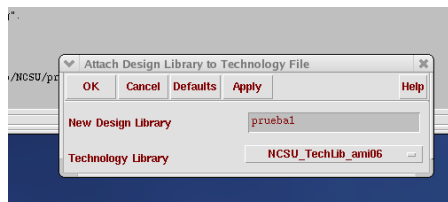

Figure 5. Technology library window.
- e) Choose your proper technology, see Fig. 5; for instance, for AMI 0.5 μ m in MOSIS, choose **AMI 0.6u C5N**.
a) First, you have to create pins in your schematic in those non-global nets (inputs, outputs, supplies perhaps) that have to be accessible outside the symbol. For doing this, you can select the **Create Pin** icon in the Composer schematic window, select the pin name, its input or output configuration, etc, and then click at the end of the wire when the pin has to be placed. Six pin icons have been placed in the example of Fig. 5: **v+**, **v-**, **ibias**, **vdd**, **vss** (input pins) and **out** (output pin).